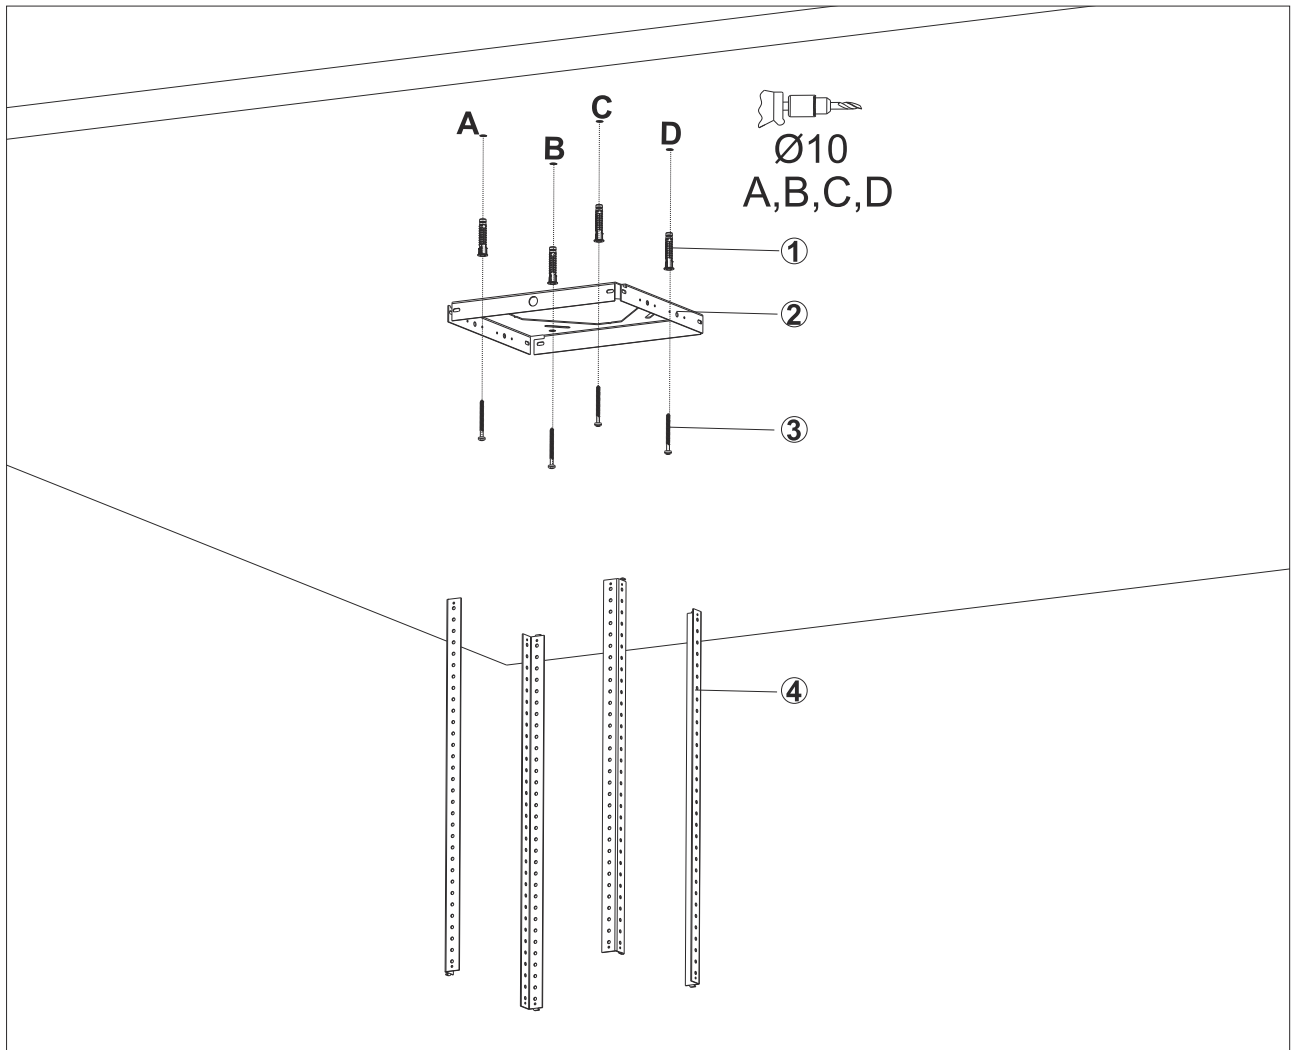

Fig. 10
1. ➔ Drill the surface where product will be installed from the points A, B, C, D with Ø10 mm drill (Fig. 10).
2. ➔ Insert Ø10 mm plastic dowels (1) into the drilled points A,B,C,D (Fig. 10).
3. ➔ Install the Ceiling Connection plate to the ceiling at points A,B,C,D with 5.5x60 screws (3) (Fig. 10).